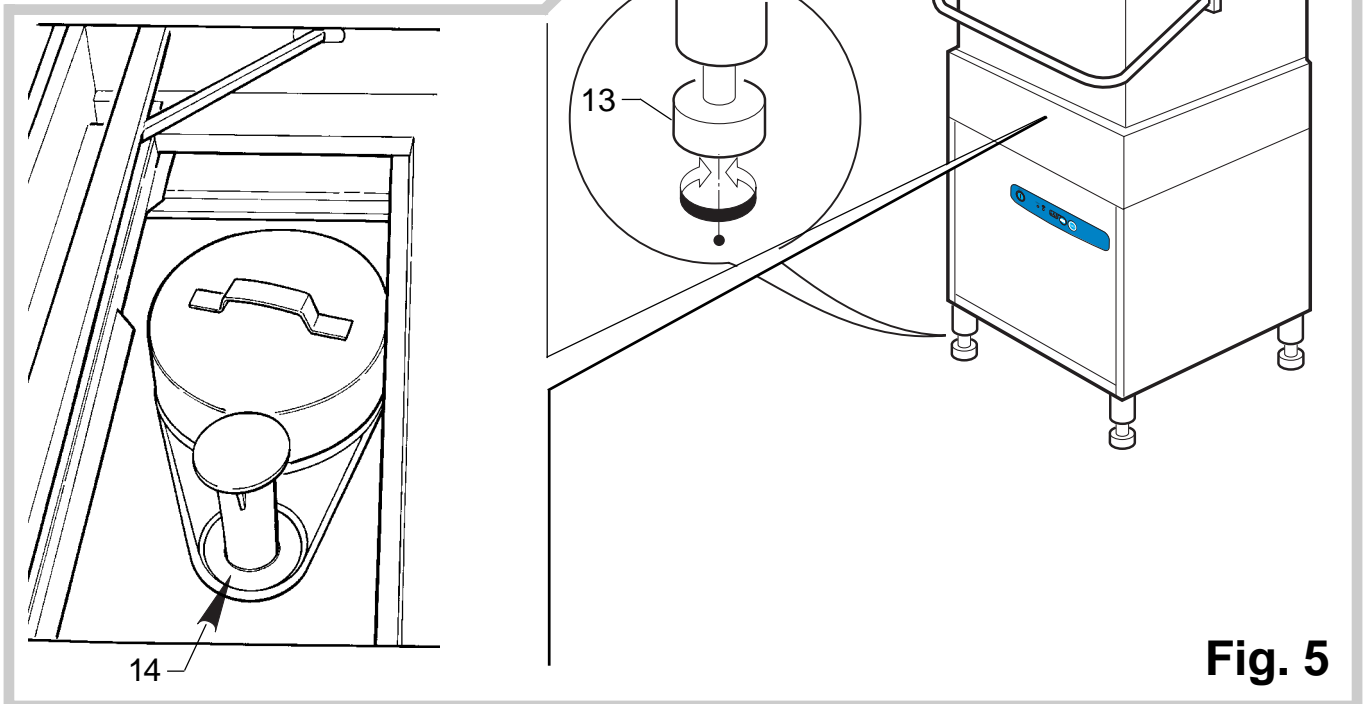

Fig. 5
3.1 INSTALLATION (Fig. 5)
- Position the machine in the required setting and level it by means of the feet (13).
3.1.a Drain pipe connection (Fig. 5)
- Connect one end of the drain pipe to the overflow (14) and the other to an already prepared drain trap.